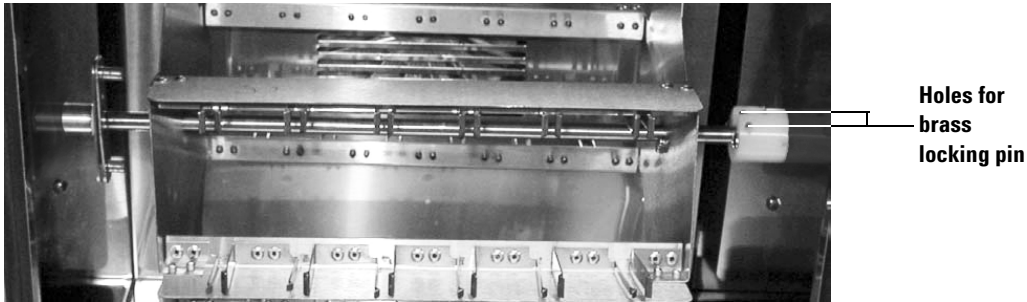

Figure 5 Rotator correctly installed
- e Complete rotator installation by inserting the brass locking pin through the two holes in the shaft support bushing. See Figure 5.